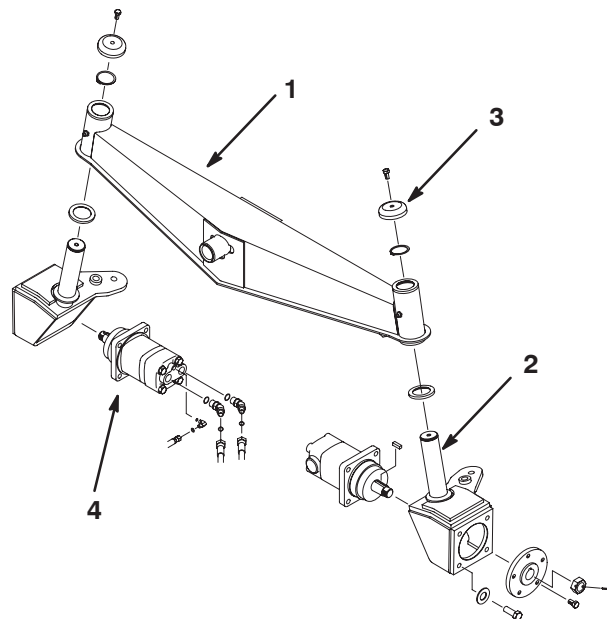

Figure 2
2. Slide a thrust washer over the shaft on each wheel motor housing (Fig. 2).
3. Slide the left and right wheel motor housings onto the axle and secure with retaining rings, spindle caps, and 3/8–16 x 3/4" lg. flange bolts (Fig. 2).
4. Reinstall the steering cylinders. Adjust the ball joint on the steering cylinder so that the steering arms contact the stops on the axle in either direction (Fig. 2).